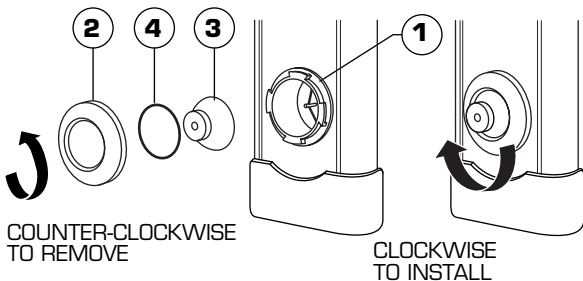

Figure 1
- **Figure 1.** Unscrew the TRIM RING (2) on the outside of the SPRAY HEADS (1) by twisting 1/8th of a turn counter-clockwise.
- Remove the O-RING (4) and NOZZLE (3).
- Nozzle (3) can be cleaned using soft bristled brush.
- Replace O-RING (4) and NOZZLE (3) and lock the TRIM (2) into place by twisting it clockwise until it clicks.